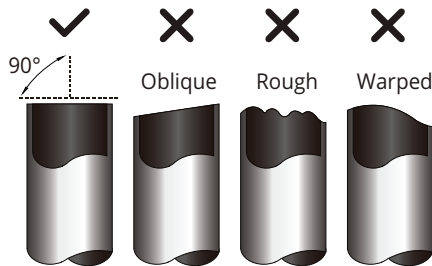

Fig 6.1
- 3. Make sure that the pipe is cut at a perfect 90° angle. Refer to **Fig. 6.1** for bad cut examples.